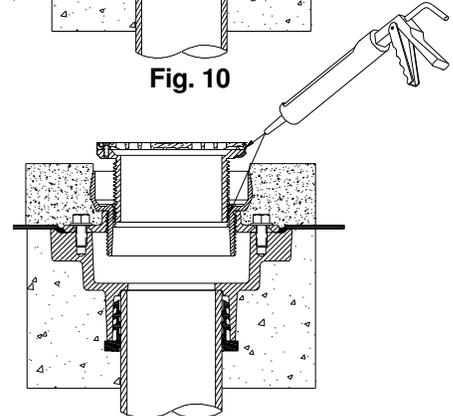

Fig. 11R
- 11a. Place a bead of silicone around the circumference of the last thread of the head assembly. See Fig. 11R
- 11b. Thread head assembly down until bottom of the frame is flush with the top of the concrete. See Fig. 11R
- 11c. Place a bead of silicone around the perimeter of the strainer frame. See Fig. 11R